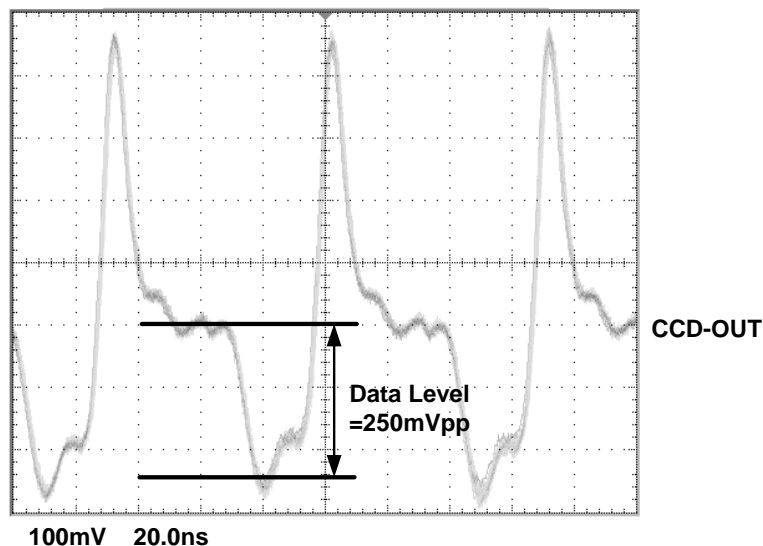

Fig 8.2-1 CCD-OUT Waveform
3. Monitor the CCD-OUT signal with an oscilloscope and adjust the exposure level so that the CCD data block is 250 [mVp-p] as shown in "Fig 8.2-1". Adjust the exposure level using an ND filter or by changing the lens iris, etc.